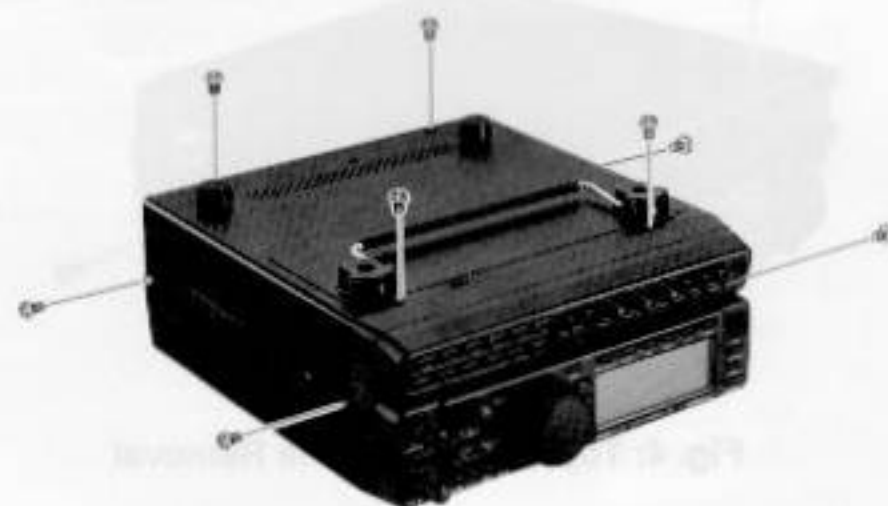

Figure 1: Bottom Cover Removal
- ☐ Place the set upside-down on the work surface with the rear facing you, and remove the eight screws affixing the bottom cover (Figure 1). Then lift the bottom cover off.